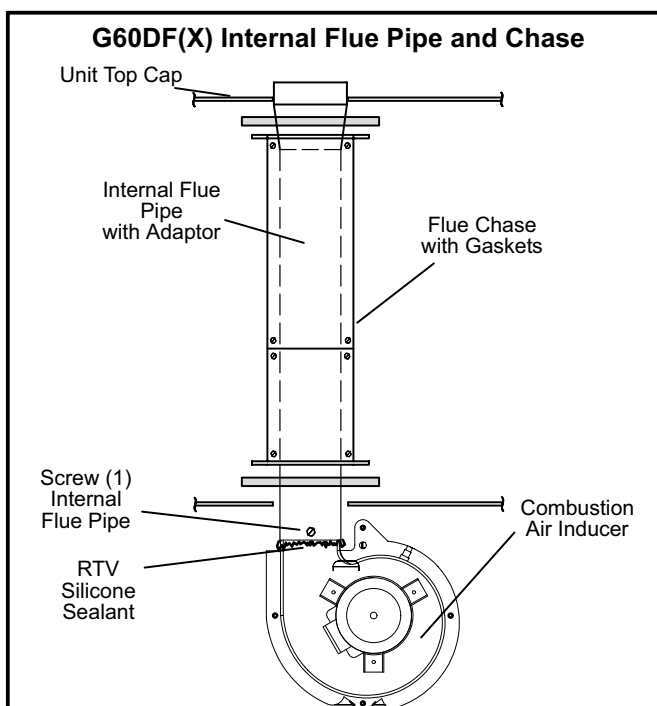

FIGURE 18
- 3 - Remove the screw that secures the internal flue pipe to the combustion air inducer. See figure 18.